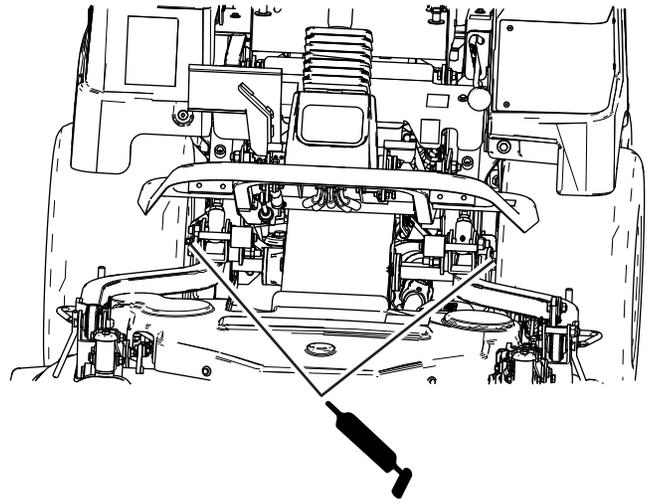

Figure 43
- Front wheel bearings (Figure 43)